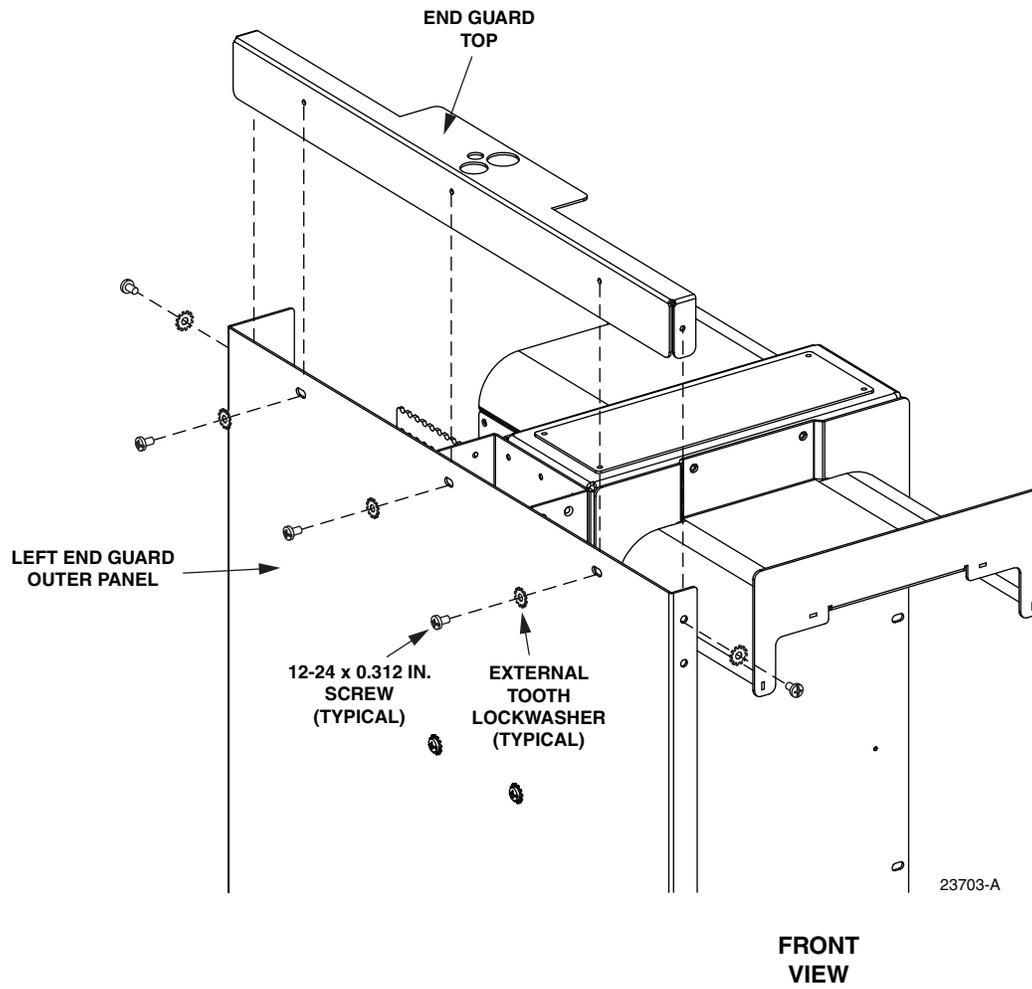

Figure 19. Installing End Guard Top on End Guard
- Attach the end guard top to the end guard as shown in Figure 19 using four 12-24 x 0.312 inch screws and four external tooth lockwashers.